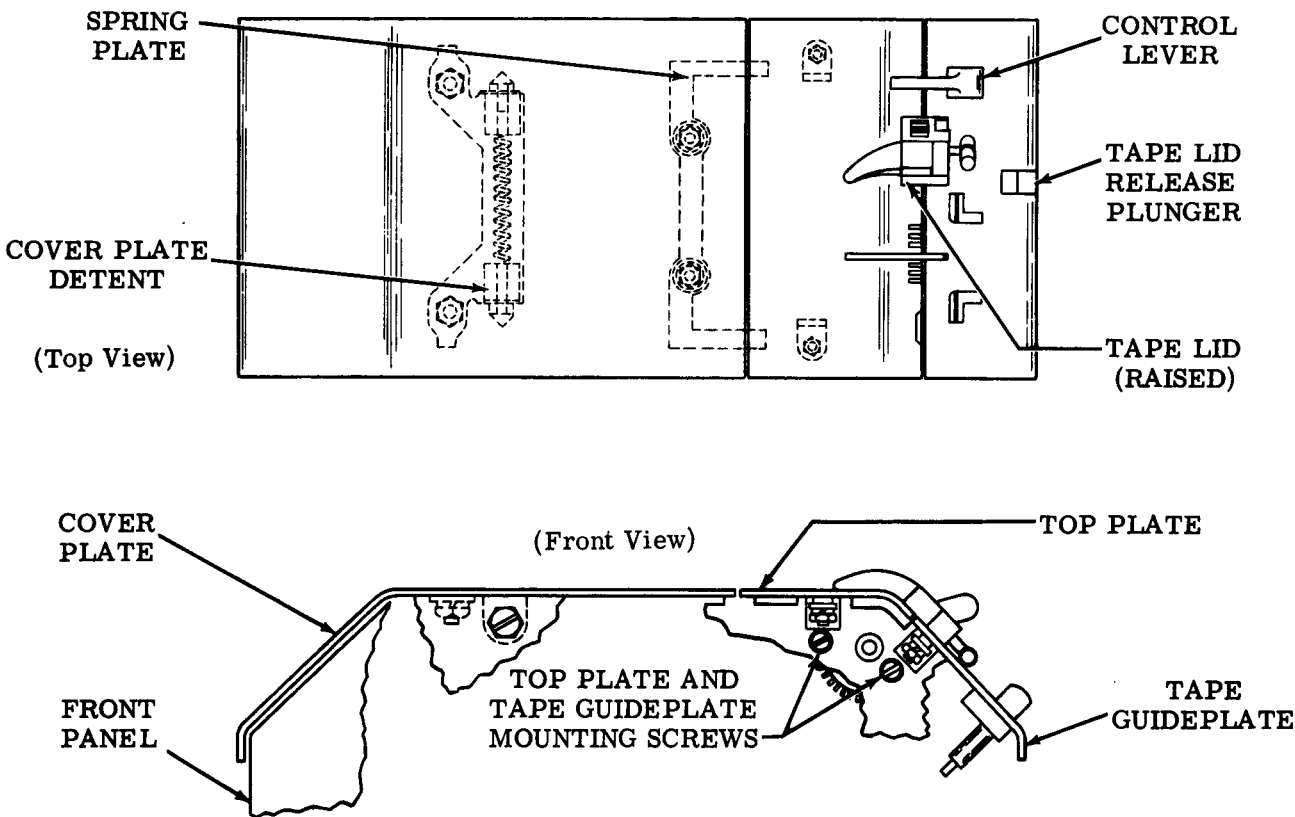

Figure 2 - Plate Assemblies
2.03 To remove top plate, loosen the front and rear mounting screws (Figure 2) and lift the plate upward.
2.05 To remove the tape guideplate, loosen the front and rear mounting screws and slide the plate upward (Figure 2).